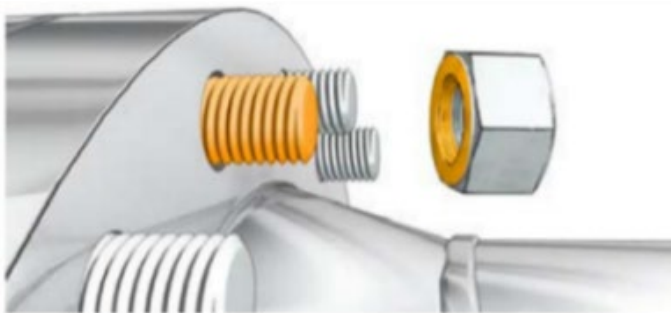

Figure 1: Lubrication (also refer to Note 4)
5. Grease bolts sufficiently with Molykote® G-Rapid Plus so that all threads and contact surfaces between bolt head, nuts and flanges are covered with lubricant, as shown in Figure 1.